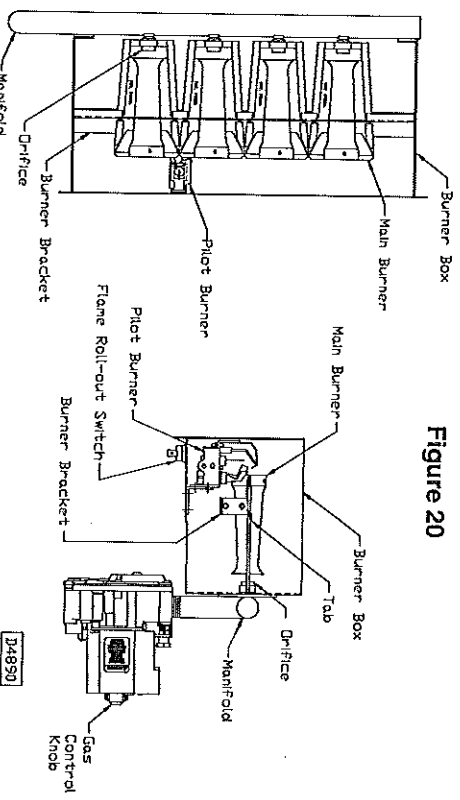

Figure 20
EXPLANATION OF CONTROLS (See Figure 20):
See Figure 20 for parts/identification.
4. To clean or replace the main burners, remove the four screws holding the manifold to the burner box and pull the manifold back slightly to disengage the orifices from the main burners. Remove each burner by holding it against the tab on the burner bracket, then rotate the inlet end of the burner toward the fan side of the unit and slide the burner off the tabs. See Figure 20.